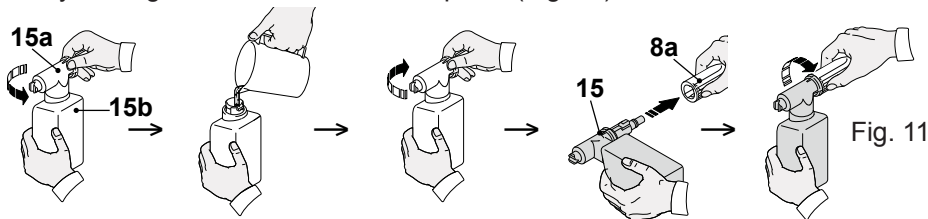

Fig. 11
4. Securely fit the soap tank into the port connection (8a) of spray gun (8) by turning it clockwise to lock it in place (Fig. 11).